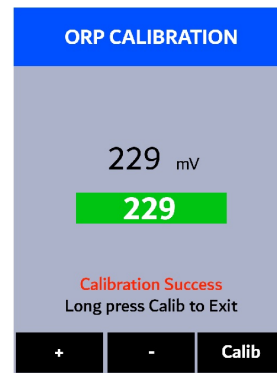

Figure 30.
7. Press **Calib** (**OK**). The message "**Calibration Success**" will appear on the display (Figure 30).